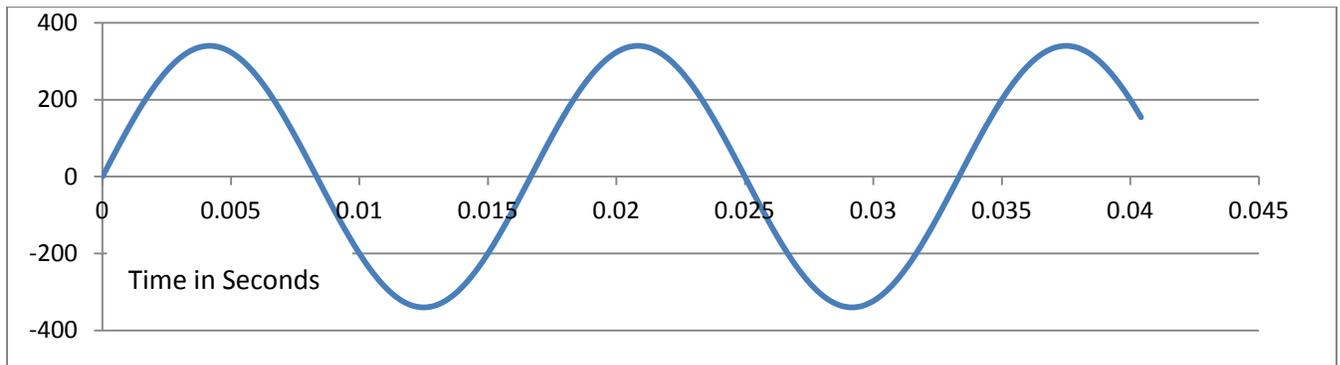
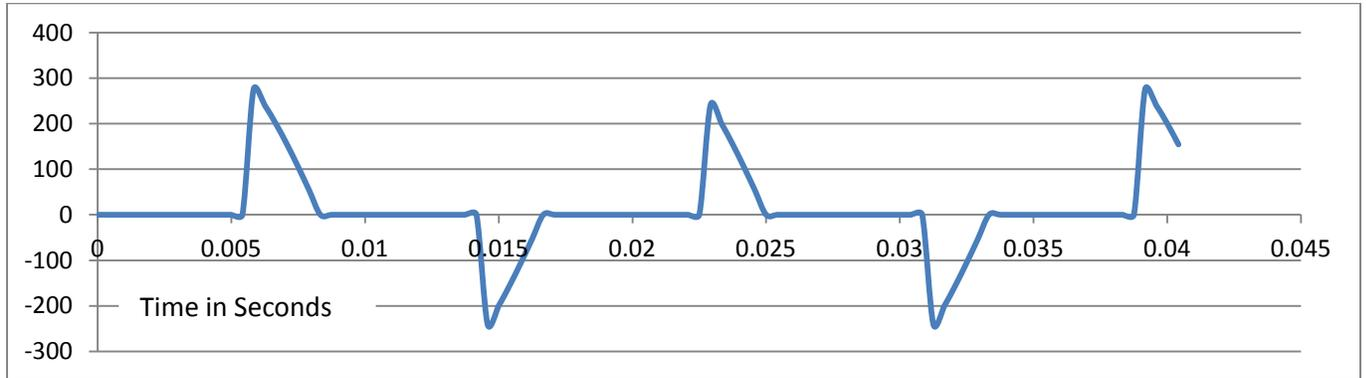

Figure 7. The output waveform produced by the HC-80 when operating in AC mode with Voltage = 240VAC, Pulses = 60, and Duty Cycle % = 100
Figure 8. The output waveform produced by the HC-80 when operating in AC mode with Voltage = 100VAC, Pulses = 60, and Duty Cycle % = 100.
It is a bit more difficult to conceptualize the output waveforms produced by the HC-80 when operating in Alternating Current (AC) mode, particularly when producing pulsed AC. When the Box is operating in AC mode and the voltage is set to 240 volts, 100% duty cycle and 60 Hz, the output waveform looks like the standard AC sine wave from the generator (Figure 7). Similarly, if the box is set to 240 volts, 100% duty cycle and any other frequency (30pps, 20pps, 15pps, etc.), the output waveform will resemble that of Figure 7; a 60Hz size wave. The reason this is the case is because the box does not alter the frequency of the AC sine wave being produced by the generator when output voltage is set to 240 VAC and duty cycle is set at 100%, regardless of the pulses per second.
The AC output section uses phase shift modulation to regulate the voltage on the output pins. The processor in the Box synchronizes to the input sine wave from the generator. It then waits the correct amount of time for the desired output voltage, where upon it connects the generator to the output leads. It goes through the process for each  $\frac{1}{2}$  cycle or 120 times per second (assuming it's a 60Hz generator). Figure 8 shows the output waveform when an oscilloscope is connected to the output leads, the duty cycle is set to 100%, and the voltage to 100 volts. Notice that the output wave in Figure 8 is different from that of Figure 7, even though the frequency is the same (60Hz) and the duty cycle is the same (100%). The difference comes from voltage setting (100 volts), which reduces the area under the curve to comply with the lower voltage setting. This is